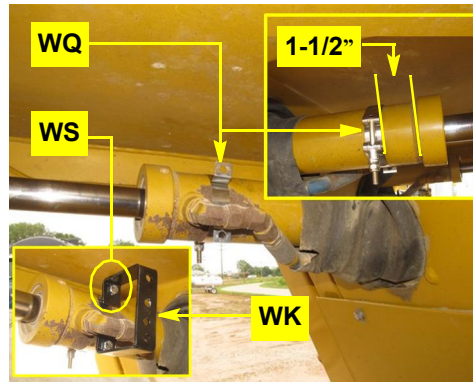

Figure 2a: WAS mounting clamp and (first) bracket installed
- a. Mount clamp **WQ** on the right steering cylinder at the piston rod end. Mount the clamp (Figure 2a and insets):
Using hardware **WS**, mount the open side of bracket **WK** on clamp **WQ** (Figure 2a bottom inset).